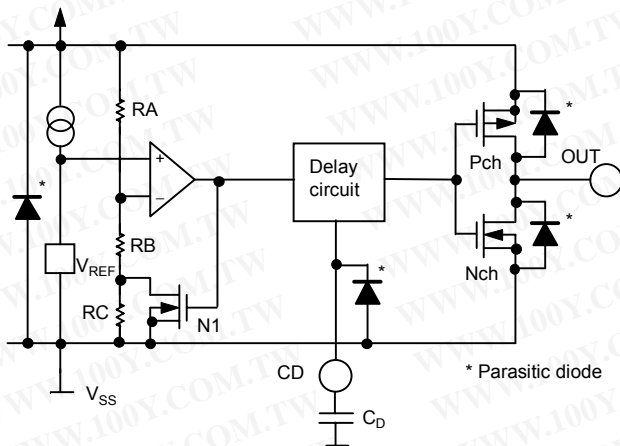
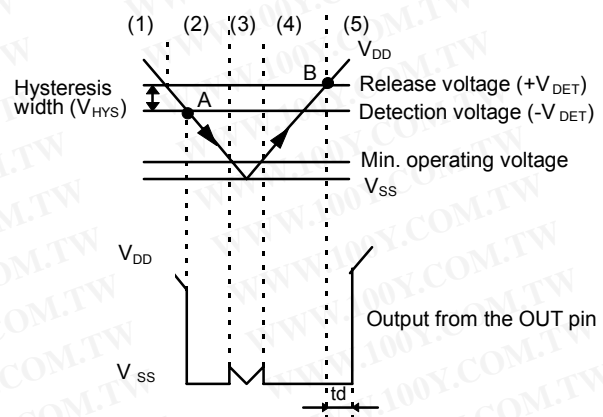

Figure 14
Figure 15
(1) When the power supply voltage V_{DD} is higher than the release voltage $+V_{DET}$, the N-channel transistor is off and the P-channel transistor is on to provide V_{DD} (high) at the output. Since the N-channel transistor N1 in Figure 14 is off, the comparator input voltage is $(RB+RC)/(RA+RB+RC) \times V_{DD}$.
- (2) When the V_{DD} goes below $+V_{DET}$, the output provides the V_{DD} level, as long as the V_{DD} remains above the detection voltage $-V_{DET}$. When the V_{DD} falls below $-V_{DET}$ (point A in Figure 15), the N-channel transistor becomes on, the P-channel transistor becomes off, and the V_{SS} level appears at the output. At this time the N-channel transistor N1 in Figure 14 becomes on, the comparator input voltage is changed to $RB/(RA+RB) \times V_{DD}$.
- (3) When the V_{DD} falls below the minimum operating voltage, the output becomes undefined, or goes to the V_{DD} when the output is pulled up to the V_{DD} .
- (4) The V_{SS} level appears when the V_{DD} rises above the minimum operating voltage. The V_{SS} level still appears even when the V_{DD} surpasses $-V_{DET}$, as long as it does not exceed the release voltage $+V_{DET}$.
- (5) When V_{DD} rises above $+V_{DET}$ (point B in Figure 15), the N-channel transistor goes off, the P-channel transistor goes on, and V_{DD} appears at the output after the delay time t_d counted by the delay circuit.
The delay circuit delays the output signal from the time at which the power voltage V_{DD} exceeds the release voltage ($+V_{DET}$) when V_{DD} is turned on. The output signal is not delayed when the V_{DD} goes below the detection voltage ($-V_{DET}$). See Figure 15. The delay time(t_d) is determined by the time constant of the built-in constant current (approx. 100 nA) and the attached external capacitor (C_D), and calculated from the following equation.